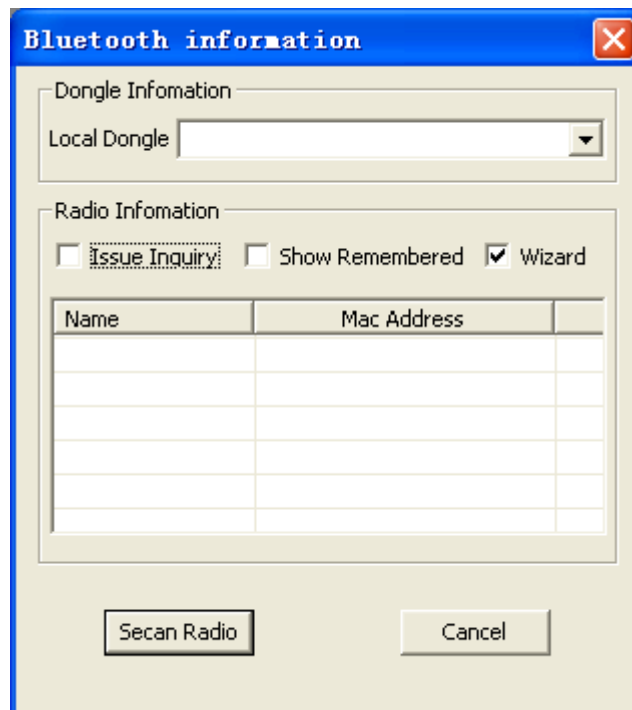

Figure 3-22
(3). Select “Wizard” in the interface as shown in Figure 3-22, the following operation refers to steps I ~ IV.
I . After choosing “Wizard”, click “Scan Radio” in figure 3-22. the following window appears.